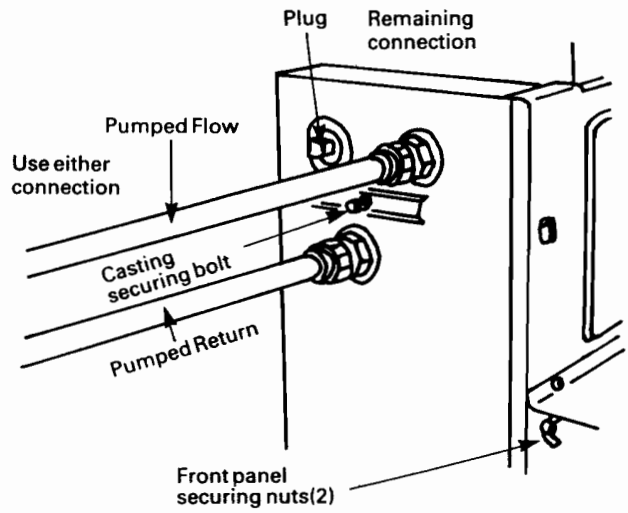

Fig. 6. Fully Pumped System
- Remove the front panel (Fig. 6). Transfer the thermostat pocket blanking disc to the right hand hole.
- Remove the casting securing bolt at the left hand side (Fig. 6).
7b Fully Pumped Systems The flow and return connections to the boiler to be as follows (Fig. 6).